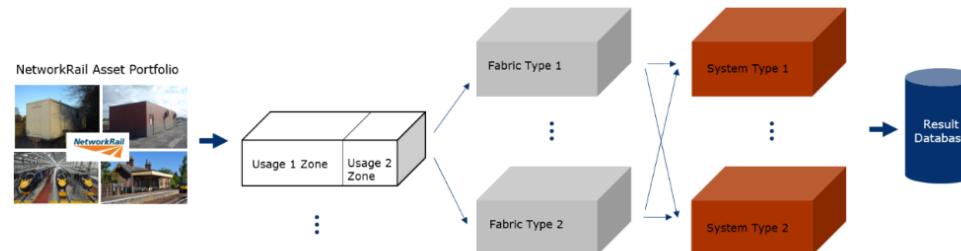

Figure 1: Methodology flowchart
3. For each archetype, a broad range of the recorded existing building fabrics and system installations and potential improvement interventions were analysed. To consider regional weather impact, each archetype was also analysed with four weather files to represent the regions shown in Figure 1.